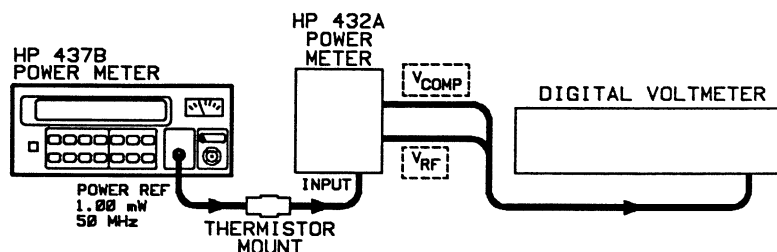

Figure 4-3. Power Reference Level Test Setup
3. Connect the test power meter to the power meter as shown in Figure 4-3.